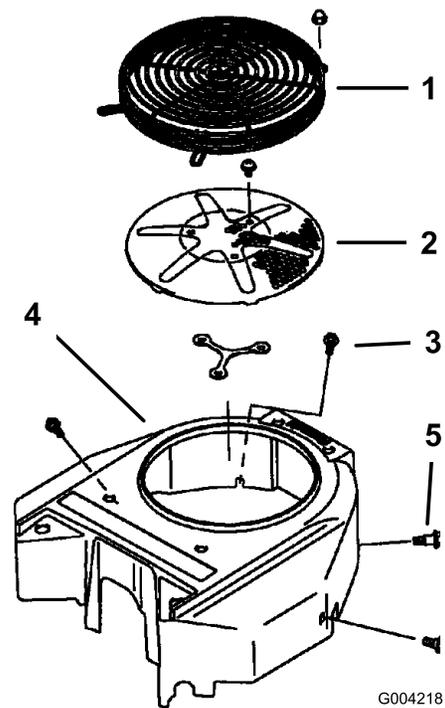

Figure 77
3. Remove the air intake screen, recoil starter, and fan housing (Figure 77).
5. Install the air-intake screen, recoil starter, and fan housing (Figure 77).